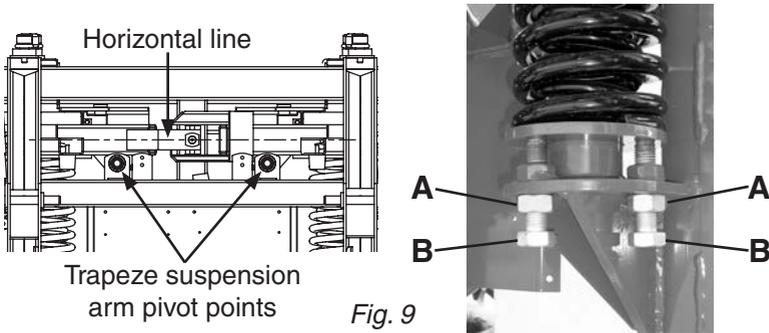

Fig. 9
1. With the boom unfolded (in spraying position), the trapeze suspension arms should be level/horizontal (Fig. 9). To adjust, loosen the 3 jam nuts (A)(Fig. 9) on both sides and adjust the tension of the vertical springs by tightening or loosening the bolts (B)(Fig. 9) to suit the boom weight.
Note: Adjust all 3 bolts (B)(Fig. 9) evenly on each spring. Also make sure both springs are adjusted equally.
2. Tighten the jam nuts (A)(Fig. 9) when correctly adjusted.